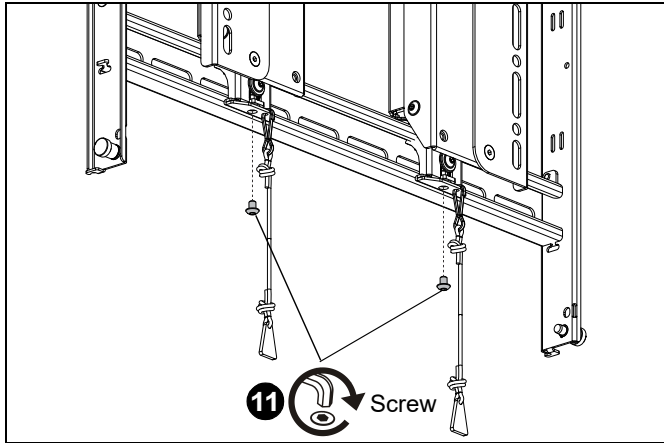

Figure 21
11. Install button head screws (J) to secure lower latch bracket on bottom rail on both interface brackets. (See Figure 21)